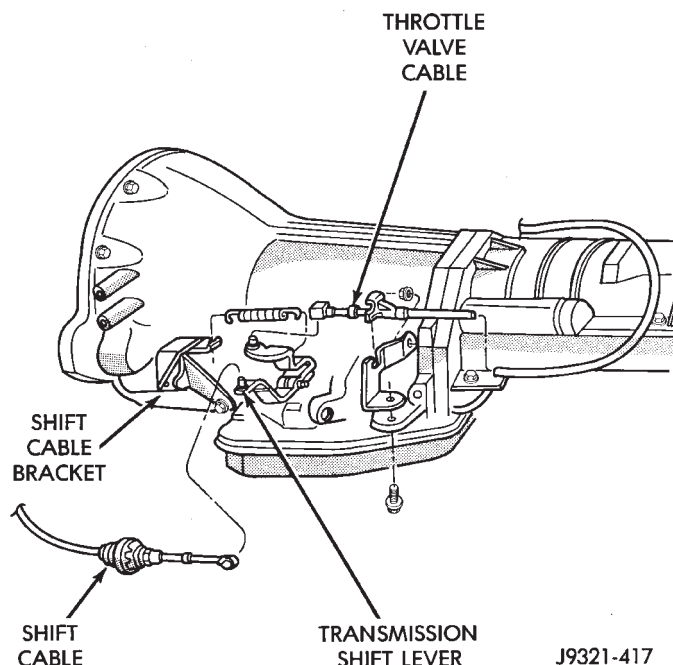

Fig. 175 Shift Cable Attachment At Transmission—Typical
- (1) Shift transmission into Park.
- (2) Raise vehicle.
- (3) Release cable adjuster clamp (at transmission end of cable) to unlock cable.
- (4) Unsnap cable from cable mounting bracket on transmission (Fig. 175).
- (5) Slide cable eyelet off transmission shift lever.
- (6) Verify transmission shift lever is in Park detent by moving lever fully rearward. Last rearward detent is Park position.
- (7) Verify positive engagement of transmission park lock by attempting to rotate propeller shaft. Shaft will not rotate when park lock is engaged.
- (8) Slide cable eyelet onto transmission shift lever.
- (9) Snap shift cable adjuster into mounting bracket on transmission.
- (10) Lock shift cable by pressing cable adjuster clamp down until it snaps into place.
- (11) Lower vehicle and check engine starting. Engine should start only in Park and Neutral.